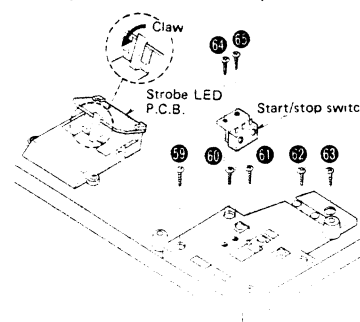

Fig. 15
2. Shift the claws which fasten the printed circuit board in the direction of the arrow to remove the board. (Fig. 15)
2. Remove the 5 setscrews (Fig. 15 : 59 ~ 63) of the speed selector P.C.B.
3. Remove the setscrews 64, 65 in Fig. 15 to remove the start/stop switch.